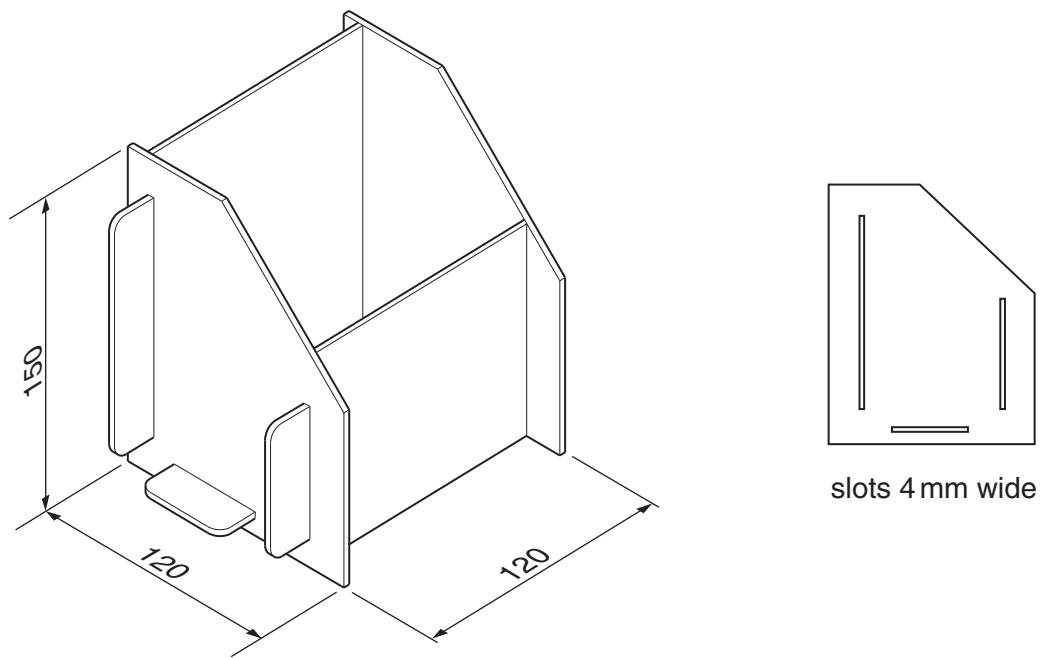

Fig. 3
- 2 Fig. 3 shows details of a desk tidy made from 3 mm thick MDF.
- (c) Describe **three** main stages in cutting out **one** of the slots shown in Fig. 3.